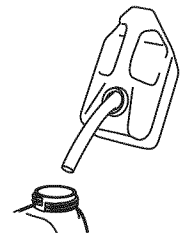

Fig. 5
- Place the gas container's spout into the fill hole on the fuel tank and fill the tank. (Fig. 5)